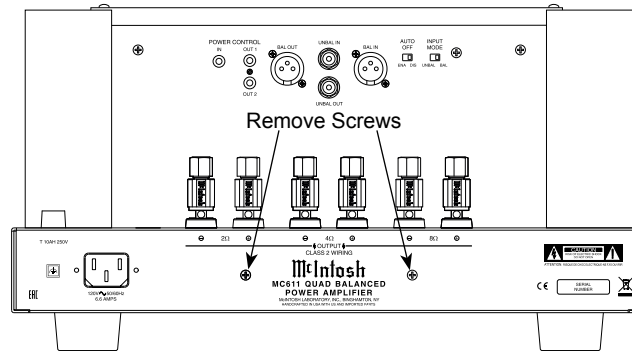

Figure 1
3. Using a suitable tool remove the two screws from the MC611 Rear Panel and temporarily place them in a safe place. Refer to figure 1.